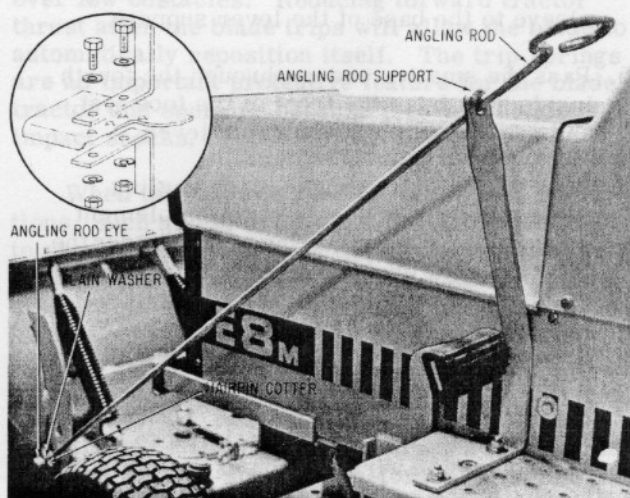

Figure 1
1. Attach the angling rod support and support bracket to the left foot rest. Secure with bolts, plain washers, lockwashers and nuts along the front row of holes in the foot rest in the order shown in Figure 1.
2. Pass the handle end of the angling rod through the angling rod support bracket on the left side of the tractor. Secure its "eye" end to the left end of the blade mounting rod with a plain washer and hairpin cotter. See Figure 1.